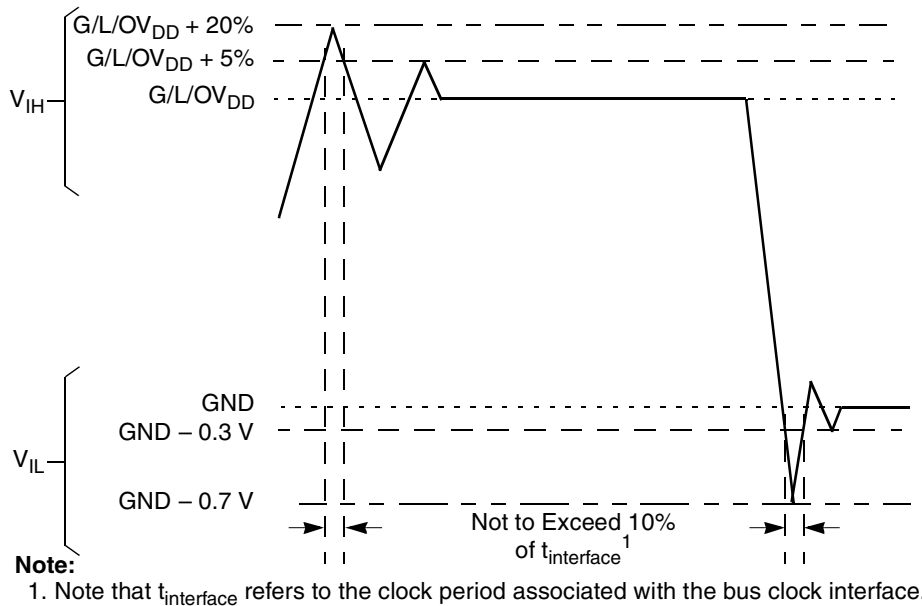

Figure 2. Overshoot/Undershoot Voltage for $GV_{DD}/OV_{DD}/LV_{DD}$
5. (M,L,O) V_{IN} and MV_{REF} may overshoot/undershoot to a voltage and for a maximum duration as shown in Figure 2.
Figure 2 shows the overshoot and overshoot voltages at the interfaces of the device.